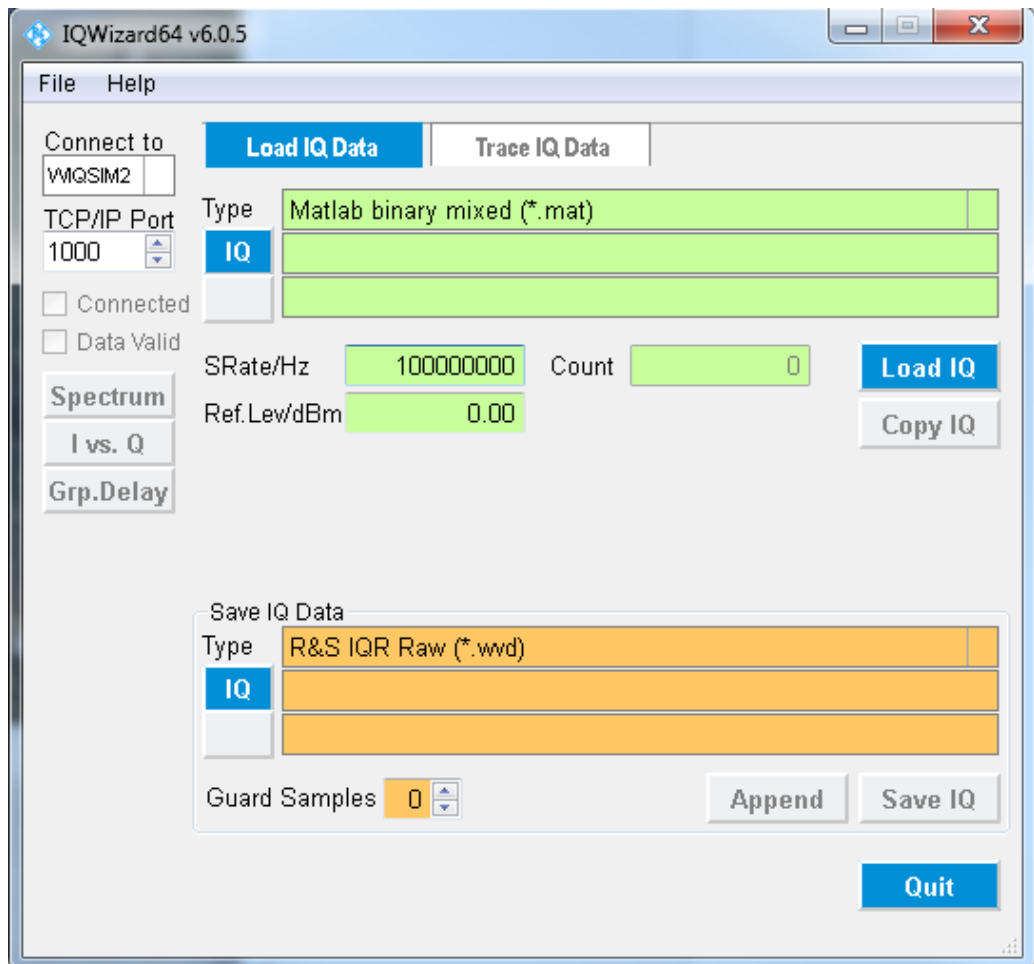
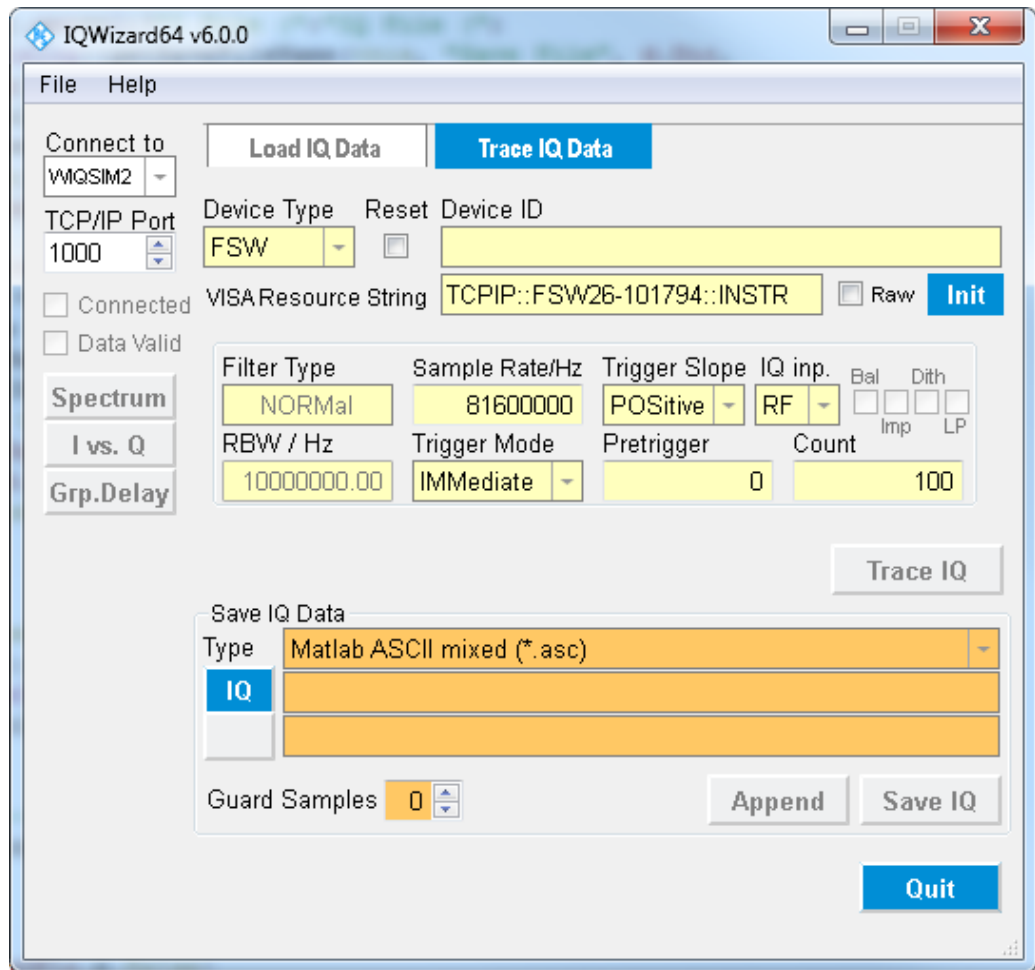

Fig. 3-1: IQWizard with file as IQ source
Fig. 3-2: IQWizard with spectrum analyzer as IQ source
- **IQ SOURCE** – IQ data can be loaded from a file (Fig. 3-1) or traced with a spectrum analyzer FSx, test receiver ESx and network analyzer ZVx with spectrum analyzer mode or oscilloscope RTO (Fig. 3-2) or can be loaded from a file with various formats.